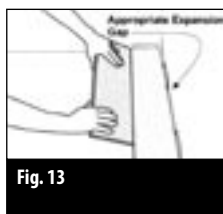

Fig. 13
- Continue spreading adhesive and placing rows into place. The cut from the far end can be used to start the next row. Use a tapping block or puller to make sure the pieces are fully engaged. Do not hit the edges with a hammer or mallet as the finish may be damaged. Do not spread more adhesive than can be reasonably worked during the open time specified by the manufacturer. (Figure 13)